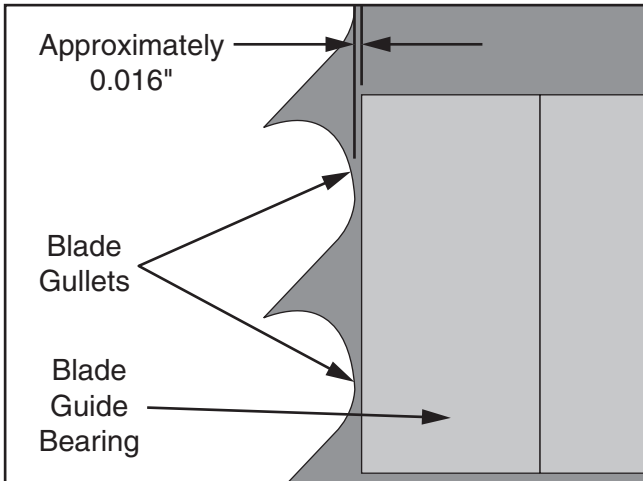

Figure 19. Lateral adjustment of blade guides.
4. Loosen the cap screw on the lateral adjustment rod and adjust the blade guides until the edges of the bearings are $\frac{1}{16}$ " behind the blade gullets, as illustrated in **Figure 19**.